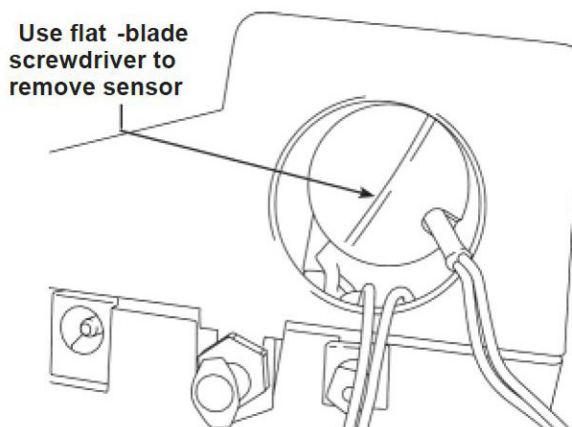

fig. 006 Air sensor detail
3. Move the cap and harness aside. Hold the lead from the sensor, and use a flat-blade screwdriver to unthread and remove the oxygen sensor. See fig. 006 "Air sensor detail".